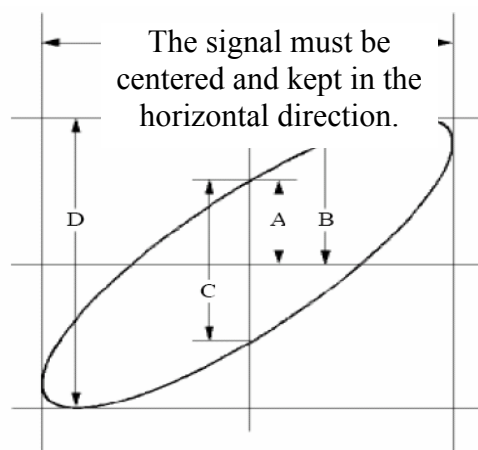

Fig.69 Lissajous Graph
3. Press **DISPLAY** to activate **DISP SET** menu, then F3 to select XY mode. Now the waveform is displayed as **Lissajou's curve**, adjust **VOLTS/DIV** and **VERTICAL POSITION** to get the best possible display, work out the phase shift as in Fig.69.
$\sin(q) = A/B$ or C/D , where q is the angle of phase shift, A, B, C, and D as them in Fig.69. The angle of phase shift $q = \pm \arcsin (A/B)$ or $\pm \arcsin (C/D)$.